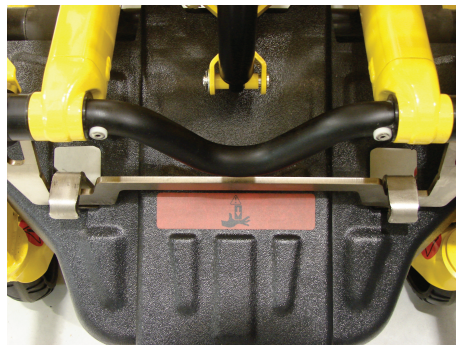

Figure 14 – Cot in fastener (head end)
3. Make sure that the cot is secured into both fasteners before you release your grip on the cot (Figure 14).